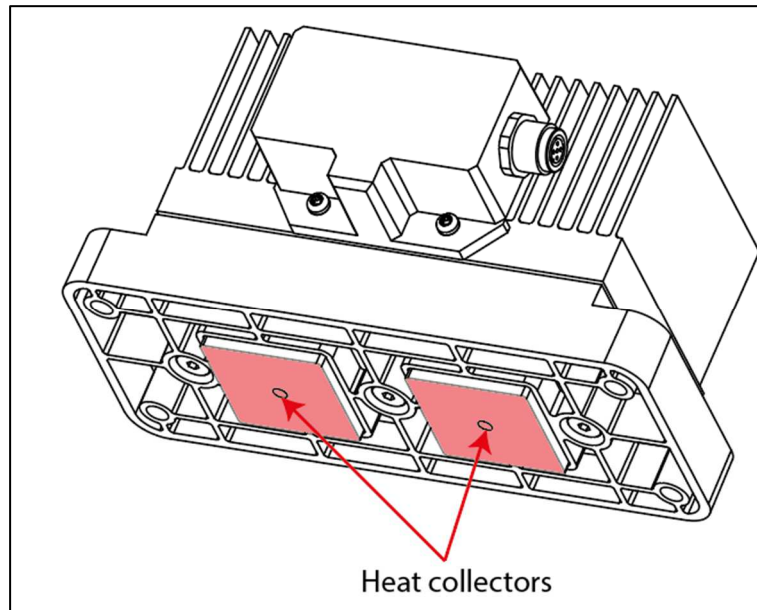
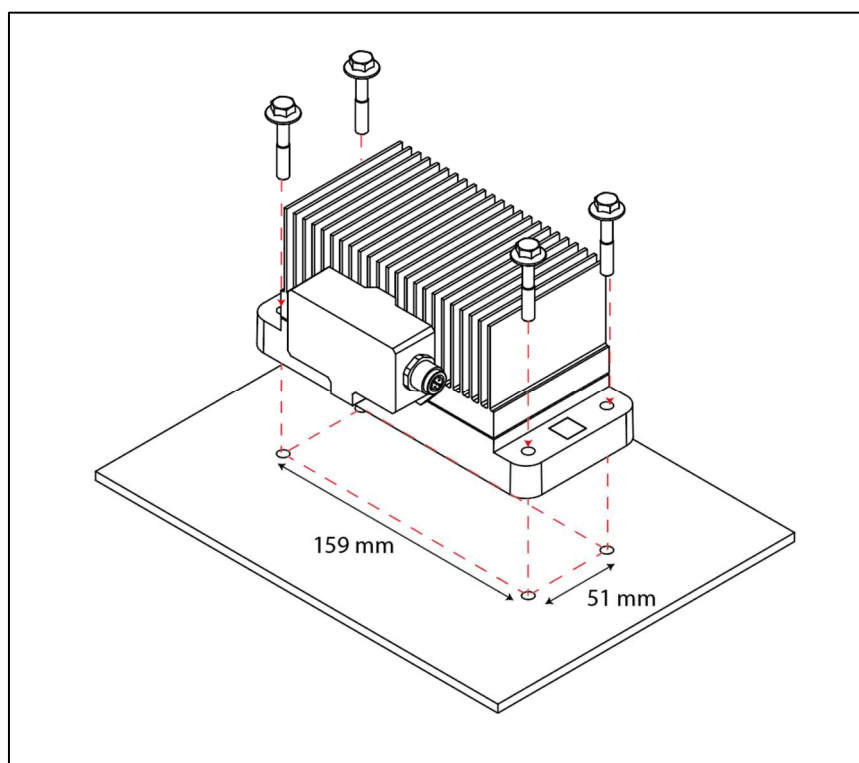
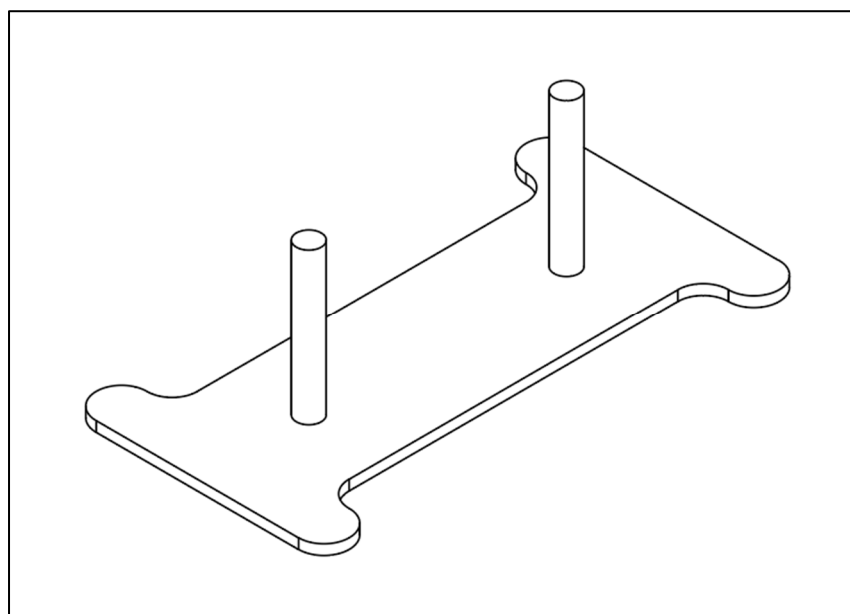

Figure 4.- Bottom view of the Thermoelectric generator (IET)
Figure 6.- Thermoelectric generator IET optimal mounting procedure
Figure 11.- Weldable mounting kit accessory fixing plate 0018M – Optional accessory
- It is recommended to install the module, if possible, without any accessories and the heat collectors in direct contact with the hot surface to obtain higher thermal efficiency and more electrical energy as shown in Figure 4.
NOTES	Do not install the product in a location with a corrosive atmosphere. If this cannot be avoided, ensure there is adequate ventilation. When installing the Thermoelectric generator, make sure that the heat collectors have good contact with the hot surface and there are no gaps present to avoid poor performance of the module (Figure 4).
In order to achieve a higher thermal efficiency and to obtain more electrical energy from the module, it is recommended to install the module without any accessories as shown in Figure 4 only on hot flat surfaces, by anchoring the module using the 4 holes available on the plastic base to insert 4 fixing screws as show in Figure 6.
! NOTES	The screwing mounting requires holes to be drilled on the flat surface. • The screwing mounting should only be installed on flat surfaces. • When installing the Thermoelectric generator, make sure that the heat collectors have good contact with the hot surface and there are no gaps present to avoid poor performance of the module (Figure 4).
If it is not possible to mount the module as described in section 0 to obtain a higher thermal and electrical efficiency, use the optional accessory shown in Figure 11, which allows the heat collectors to be in direct contact with the hot surface. No drilling on the surface is required, but welding instead.
- Fixing plate 0018M (AISI304) – 2 units (Figure 11). (See accessories catalogue MUSPAI-1)
NOTES	• Mounting in flat surfaces with this accessory requires arc welding on the surface. Check compatibility between materials. • When installing the Thermoelectric generator with the mounting accessory (Figure 11), make sure that the heat collectors have good contact with the hot surface and there are no gaps to avoid the poor performance of the module (Figure 4).